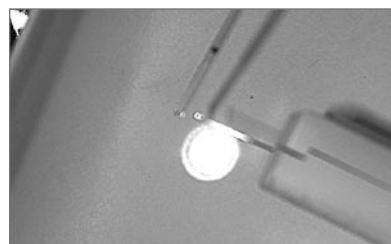

FIGURE 5
7. As the end of the 4-5 minute measurement interval approaches, hold the calibrated micropipette so the end points toward the growing droplet (Figure 5)